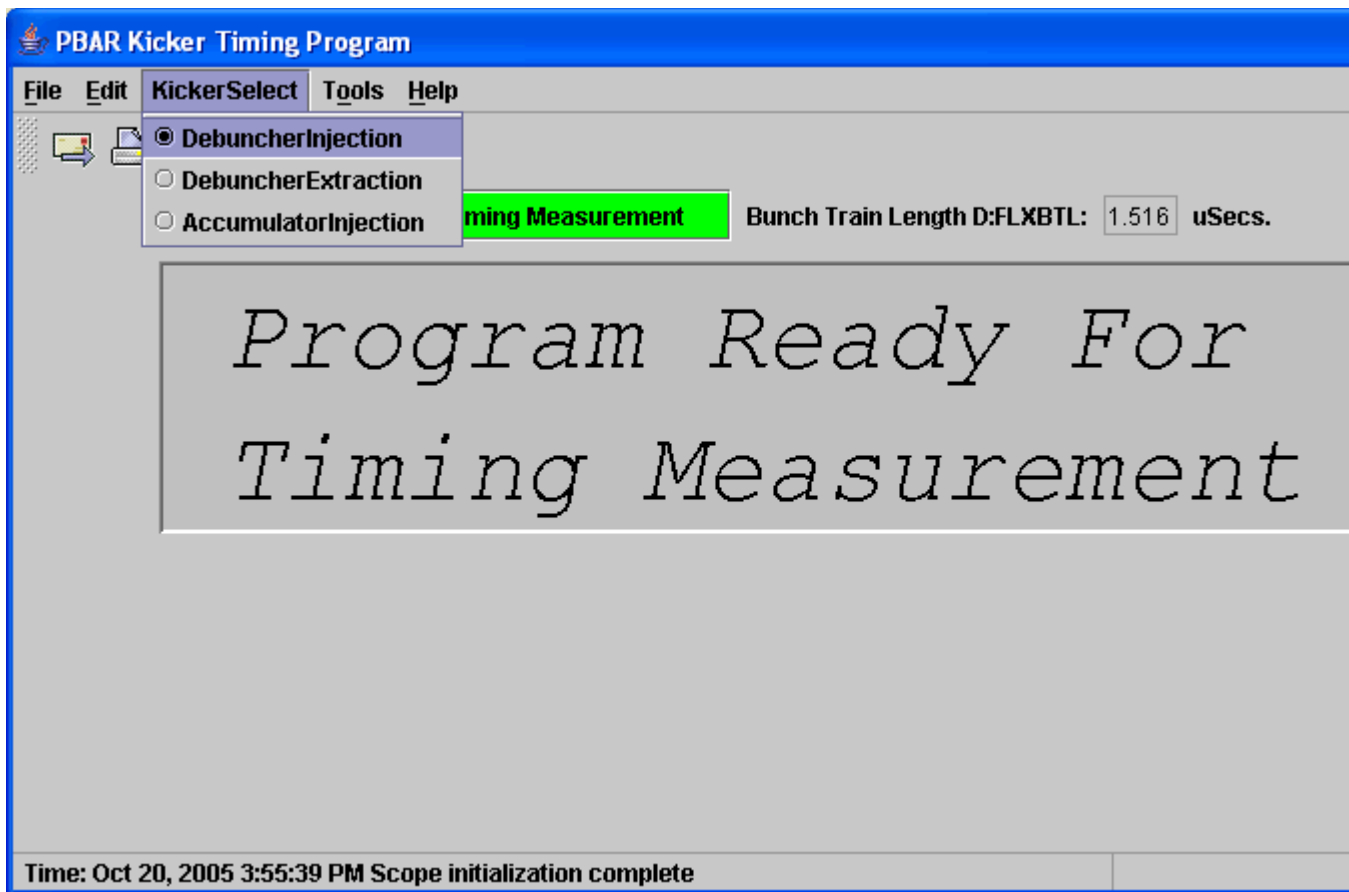

Figure 15: The Java Pbar Kicker Timing Program.
- From the Java Kicker Timer Program application, go to "KickerSelect" -> "DebuncherInjection" as shown in Figure 15.